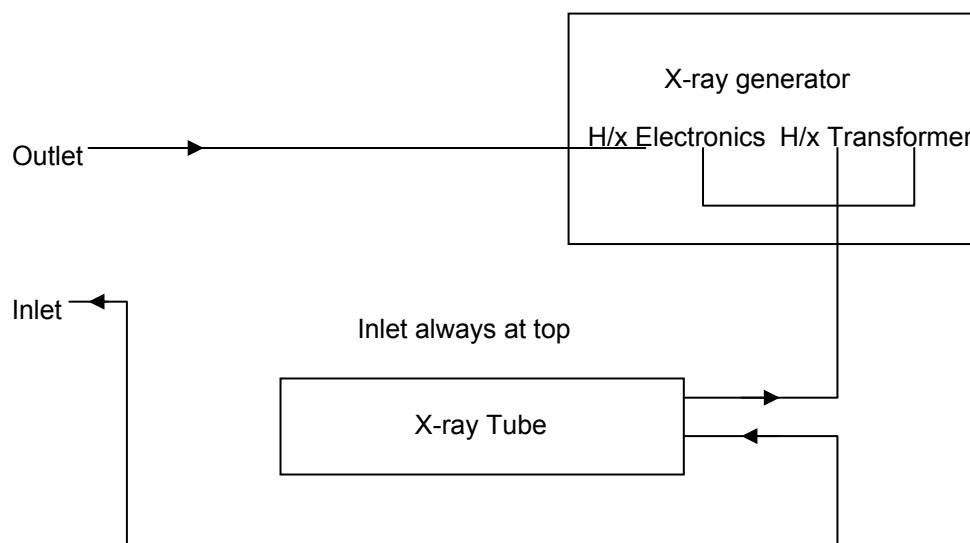

Figure 5.2.2 Water Pipe Connections
1. Connect the water pipes between the KMW3000C and the equipment to be cooled. Refer to figure 5.2.2.